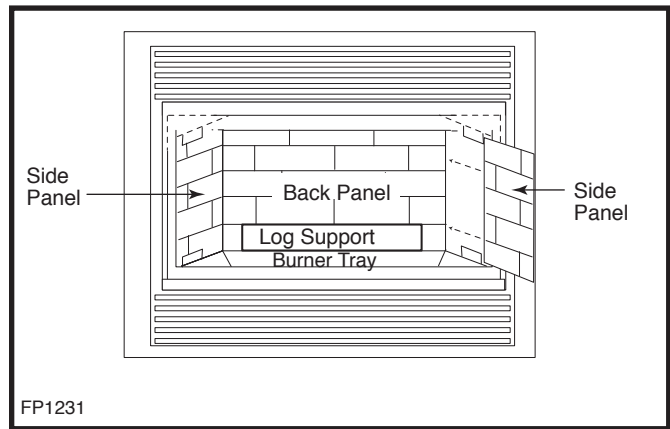

Fig. 56 Ceramic panel installation.
**Installation** Refer to Figures 56 & 57